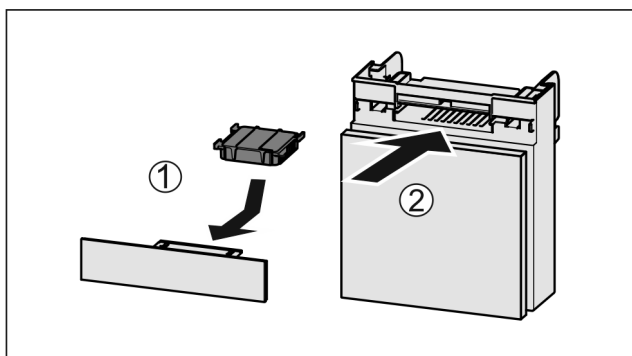

Fig. 71
- Insert the carbon filter as shown in the diagram Fig. 71 (1).
- Push the compartment in Fig. 71 (2).